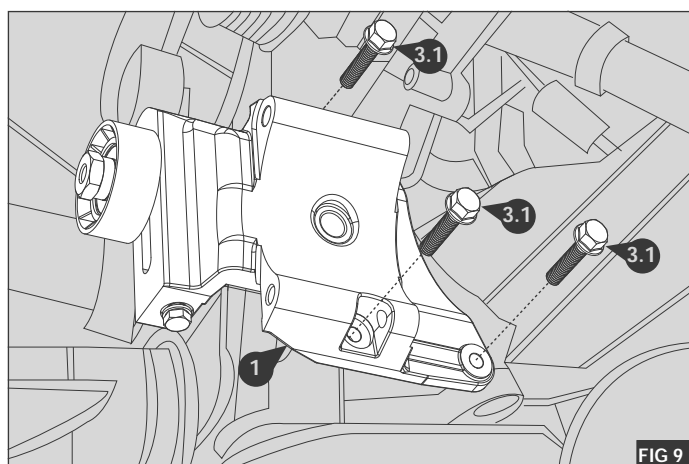

FIG 9
1. Install the compressor mount bracket (1) to the engine block using bolts (3.1) - Fig 9